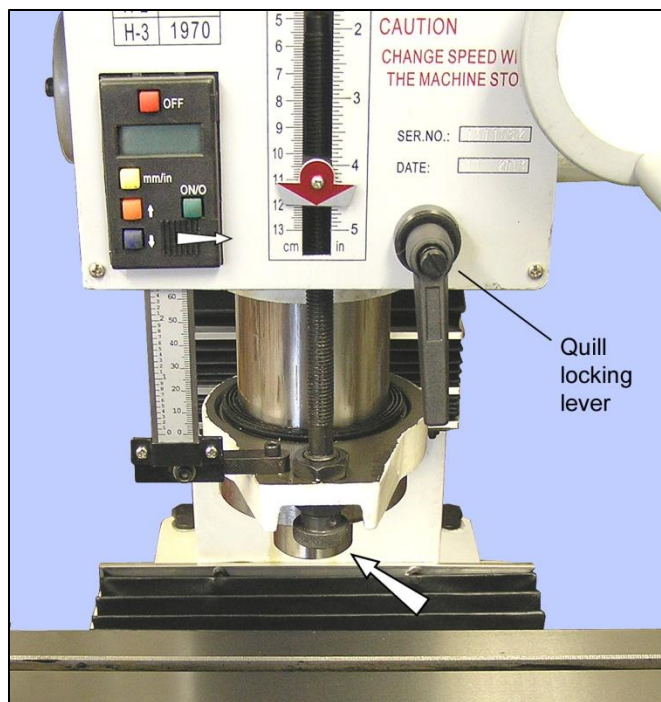

Figure 2-7 **DRO, depth stop and quill locking lever**
In the drilling mode, coarse feed, the mill functions like a standard drill press – pull the levers toward you to lower the quill. For milling operations the lever hub is disengaged, and the quill is controlled by the fine downfeed handwheel. The quill is locked by the lever to the right of the depth stop, Figure 2-7.
For drilling operations, loosen knob (4), allowing the lever hub to rotate independently of sleeve (3). If desired, set the depth stop, Figure 2-7.
Rotate the fine control knob (2) to raise or lower the quill. Before switching to fine control, it is usually a good idea to run the depth stop up to the top. Position the quill precisely either by counting divisions on the graduated dial, or by reference to the digital readout (DRO), Figure 2-7.